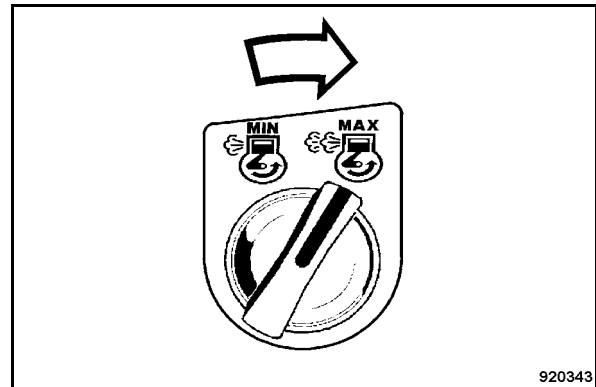

Fig. 66
- Turn the rotary momentary contact switch for engine speed (Fig. 66) clockwise to "MAX".